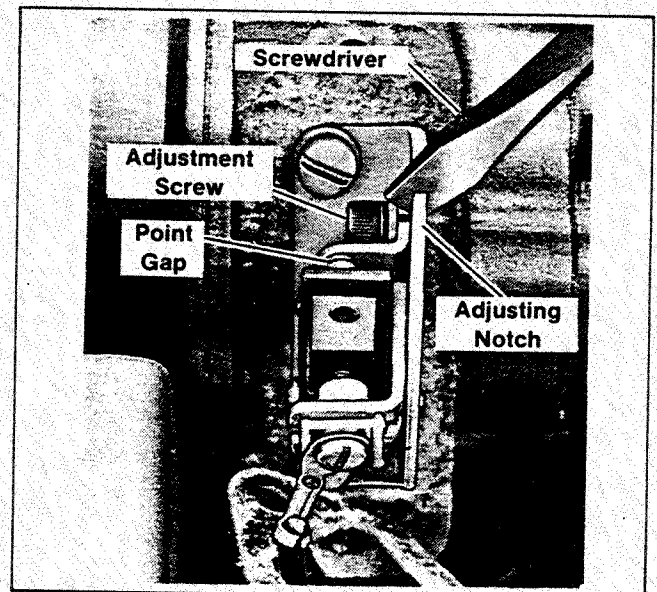

Figure 3-5. Breaker Point Gap Adjustment
4. Measure the gap with a feeler gauge. The gap at full open should be .020 inch (.51 mm). If not, loosen the point gap adjustment screw with an offset screwdriver or an allen wrench. Adjust the gap to .020 in. (.51 mm) by inserting a screwdriver blade in the adjusting notch and shifting the movable plate. See Figure 3-5. Securely tighten the adjusting screw after setting the gap.